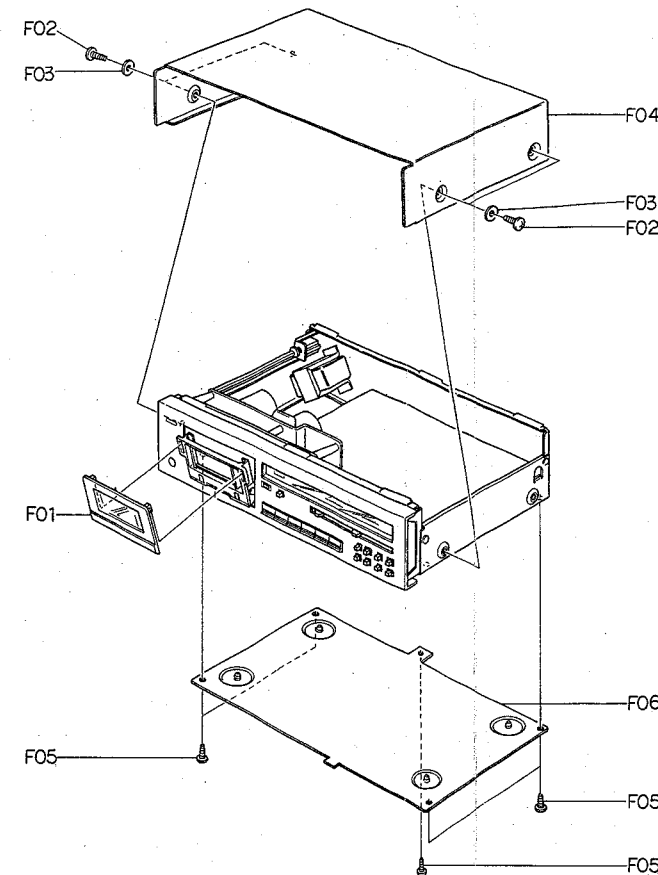

Fig. 3.1
Refer to Fig. 3.1.
- (1) Refer to Fig. 3.1. Remove Top Cover Ass'y and Bottom Cover Ass'y referring to items 3.2 and 3.3.
- (2) Pull out F01 (Volume Knobs).
- (3) Remove F02 (Power Switch Joint Bar) by releasing the self-interlocking pin of the Power Switch Joint Bar from Power Switch, and turn F02 (Power Switch Joint Bar) by 90° either clockwise or counterclockwise, then disassemble F02 (Power Switch Joint Bar) from the Power Switch Knob Ass'y.
- (4) Remove F03, then disassemble F04 (Front Panel Ass'y).
- (2) Remove F01, F02 and F03, then disassemble F04 (Rear Panel Ass'y).
- (3) Remove F05 and F06, then disassemble F07 (Power Transformer).
- (4) Remove Power Switch Joint Bar by releasing the self-interlocking pin of the Power Switch Joint Bar from Power Switch and F08, then disassemble F09 (Power Switch Holder Ass'y).
- (5) Remove F10, then disassemble F11 (Power Switch).